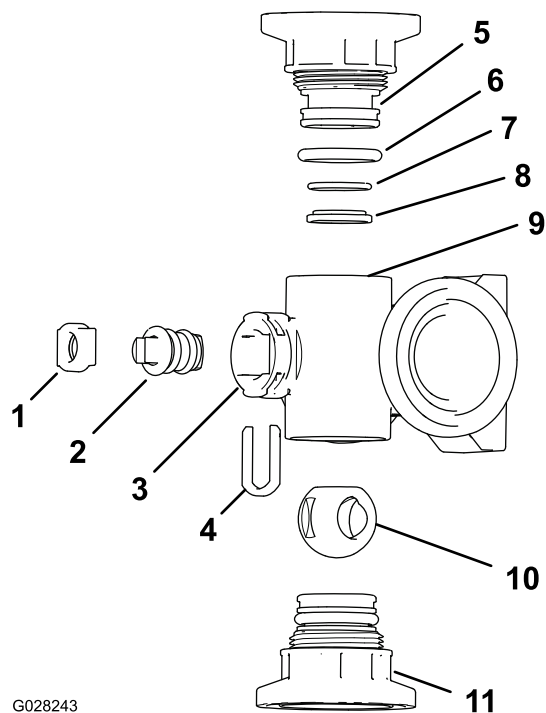

Figure 123
2. Remove the 2 end-cap-fitting assemblies from each end of the manifold body (Figure 123 and Figure 124).
- Remove the stem retainer from the slots in the stem port in the manifold (Figure 123 and Figure 124).
- Remove the stem retainer and valve stem seat from the manifold (Figure 123 and Figure 124).
- Reach into the manifold body and remove the valve-stem assembly (Figure 123 and Figure 124).
- Check the condition of the outlet fitting O-rings (section valve manifold only), end cap O-rings, back seating O-rings, and ball seat for damage or wear (Figure 123 and Figure 124).
- Apply silicone grease to the valve stem and insert it into the valve stem seat (Figure 123 and Figure 124).
- Install the valve stem and seat into the manifold and secure the stem and seat with the stem retainer (Figure 123 and Figure 124).
- Ensure that the back seating O-ring and the ball seat are aligned and seated into the end-cap fitting (Figure 123 and Figure 124).
- Install the end-cap fitting assembly onto the manifold body until the flange of the end-cap fitting touches the manifold body (Figure 123 and Figure 124), then turn the end-cap fitting an additional 1/8 to 1/4 turn.